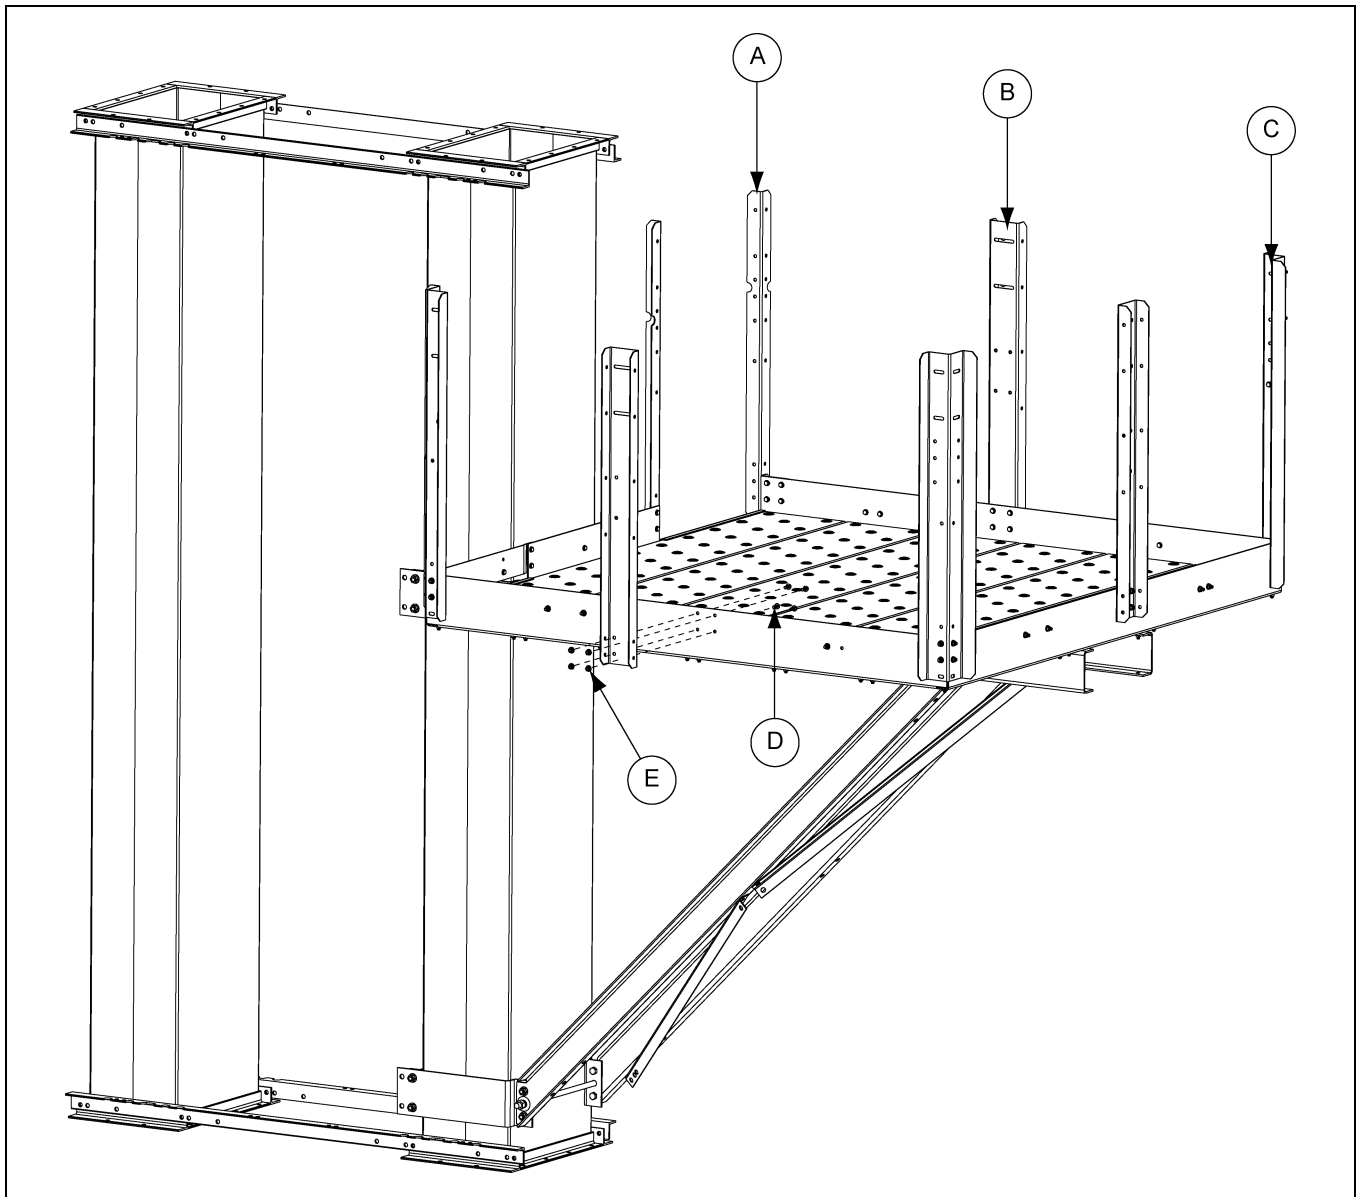

Figure 13H
Figure 13H shows the assembly of three (3) "W" corner posts (HP1648HWP) (C), three (3) platform posts (HP1648HCP) (B) and two (2) safety gate side posts (HP1648HP) (A). This must all be assembled using 5/16" hardware (S-6606 and S-3611) (D and E).